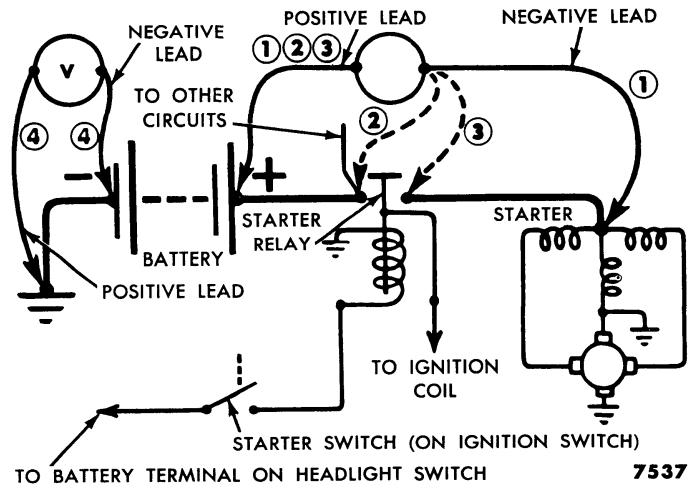

Fig. 16—Starter Circuit Test—Schematic
(5) **STARTER CIRCUIT TEST.** Excessive resistance in the starter circuit can be determined from the results of this test. Make the test connections as shown in figs. 16 or 17. Crank the engine with the ignition OFF.